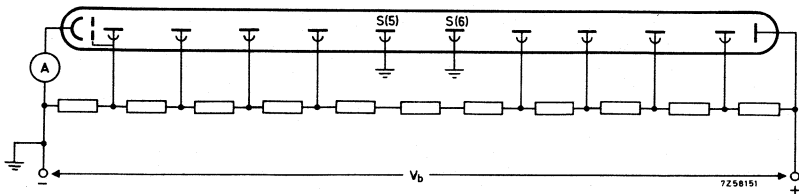

Fig. 2.5.1
The photomultiplier is connected as shown in Fig. 2.5.1. With the dynodes S(5) and S(6) connected to the negative terminal of the high voltage source via earth, the electron current flowing through the multiplier system will not reach the anode. Luminous flux can be increased until the cathode current (in the order of 0.1 μ A) is high enough for leakage currents to be neglected.